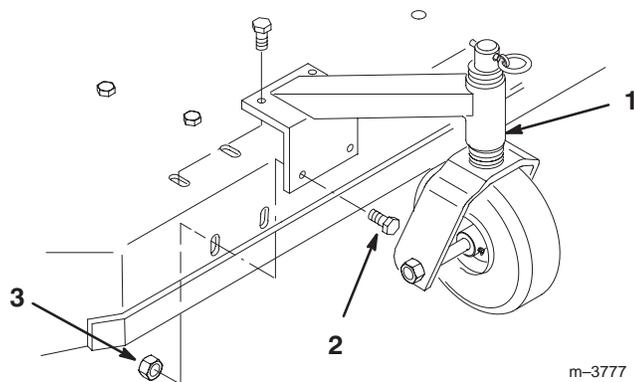

Figure 1
- Align castors with holes on top and front of mower and insert (8) 3/8-16 x 3/4" (19 mm) bolts through mower. Secure with (8) 3/8-16 flange nuts below mower (Fig. 1).